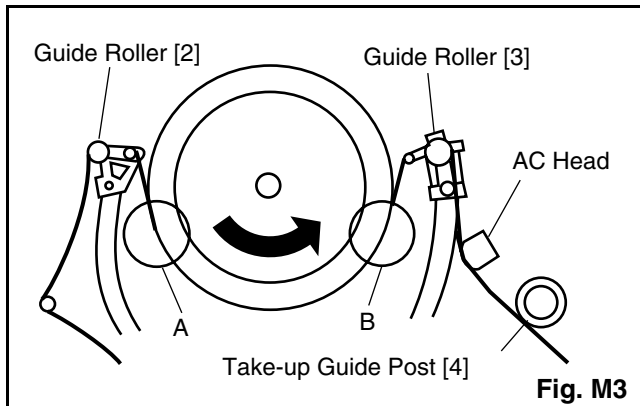

Fig. M3
1. Playback a blank cassette tape and check to see that the tape runs without creasing at Guide Rollers [2] and [3], and at points A and B on the lead surface. (Refer to Fig. M3 and M4.)
2. If creasing is apparent, align the height of the guide rollers by turning the top of Guide Rollers [2] and [3] with a Guide Roller Adj. Screwdriver. (Refer to Fig. M3 and M5.)
3. Check to see that the tape runs without creasing at Take-up Guide Post [4] or without snaking between Guide Roller [3] and AC Head. (Fig. M3 and M5)
2. Playback the Gray Scale on the Alignment Tape (MH-1). Set the Tracking Control Circuit to the center position by pressing CH UP button and then "PLAY" button on the unit. Adjust the height of Guide Rollers [2] and [3] (Fig. M3, Page 4-6) watching the oscilloscope display so that the envelope becomes as flat as possible. To do this adjustment, turn the top of the Guide Roller with the Guide Roller Adj. Screwdriver.
3. If the envelope is as shown in Fig. M7, adjust the height of Guide Roller [2] (Refer to Fig. M3) so that the waveform looks like the one shown in Fig. M9.
4. If the envelope is as shown in Fig. M8, adjust the height of Guide Roller [3] (Refer to Fig. M3) so that the waveform looks like the one shown in Fig. M9.
5. When Guide Rollers [2] and [3] (Refer to Fig.M3) are aligned properly, there is no envelope drop either at the beginning or end of track as shown in Fig. M9.
Note: Upon completion of the adjustment of Guide Rollers [2] and [3] (Refer to Fig. M3), check the X Value by pushing the CH UP or DOWN buttons alternately, to check the symmetry of the envelope. Check the number of pushes to ensure center position. The number of pushes CH UP button to achieve 1/2 level of envelope should match the number of pushes CH DOWN button from center. If required, redo the "X Value Alignment."